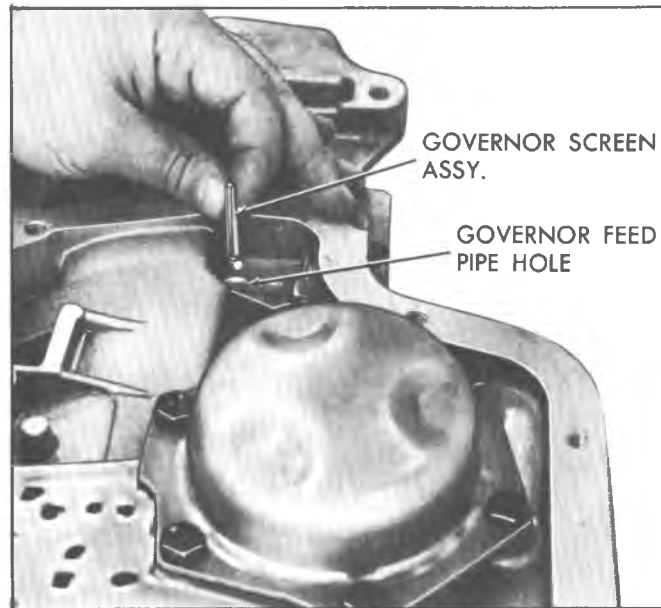

Fig. 10T-A--Removing Governor Screen Assembly
3. Remove governor screen assembly from governor feed pipe hole in the case or from end of governor feed pipe (fig. 10T-A). Clean governor screen in clean solvent and air dry.